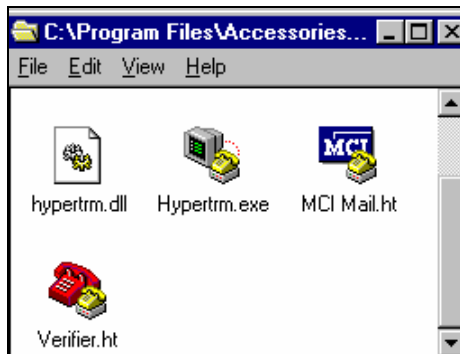

Figure 2 C:\Program Files\Accessories Window
- i. Select the **File** option, then **Save** to save the new configuration. The HyperTerminal screen shown in Figure 2 displays.